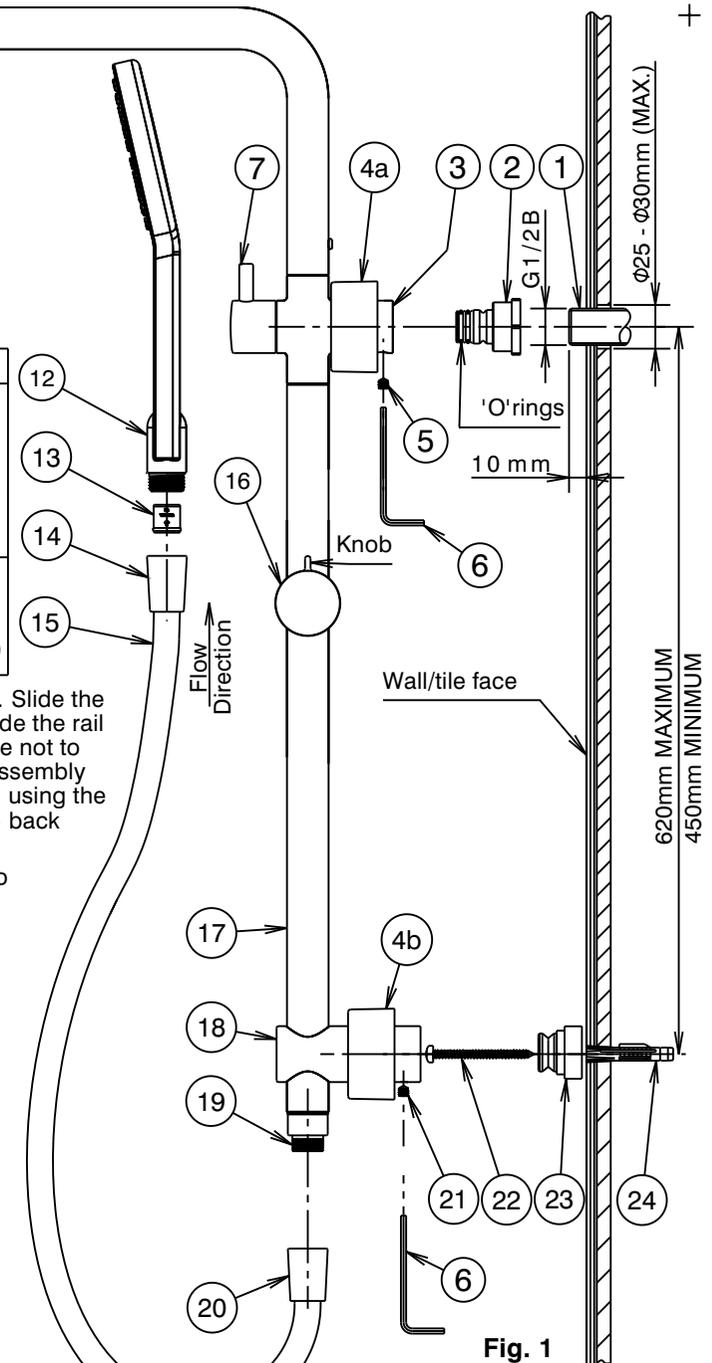

Fig. 1
- 1) Check that threaded nipple (1) is the correct length as shown. Cut to length if required ensuring end face is square. Apply thread tape to the thread. **Important:** Care must be taken that thread tape cannot become dislodged and block the flow regulating device, causing a reduction in water flow.
- 2) Fit chrome cover (4a) onto diverter (3) then loosen grub screw (5) using 3mm allen key (6) & remove inlet adaptor (2) from diverter (3). Screw inlet adaptor (2) onto threaded nipple (1) & tighten until its back face has bottomed against the wall/tile face. **DO NOT OVERTIGHTEN.**
- 3) Mark the position for the shower rail mounting base (18) at a suitable distance from the threaded nipple (1). (Fig.1)
- ii) Insert small end of wall plug (24) into drilled hole and tap until flush with surface.**CAVITY WALLS:-** (Villaboard/tile etc)
- ii) Insert small end of wall plug (24) into drilled hole and tap until flush with surface.
- 5) Fit chrome cover (4b) onto mounting bracket (18) then loosen grub screw (21) using 3mm allen key (6) & remove spigot (23) from mounting bracket (18). Pass the screw (22) through the hole in the spigot (23) as shown. Assemble screw (22) into wall plug (24) and tighten until spigot (23) is mounted securely against the wall/tile face.